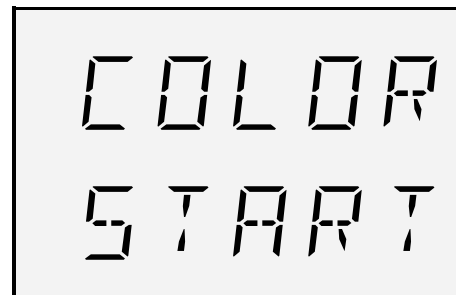

Fig. 6: View "colour light start"
7. Exit the menu using the key. The view "colour light start" (Fig. 6) is displayed.